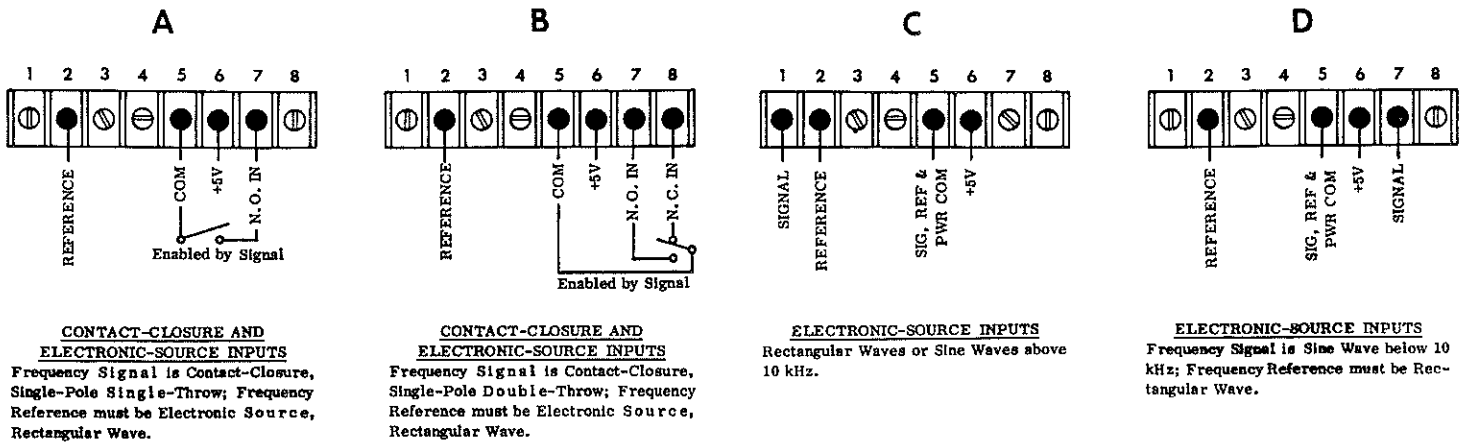

Figure 10. Input Connections for Frequency Ratio Measurement
2. Reassemble instrument and connect inputs to terminal block as shown in figure 10"A".
2. Reassemble instrument and connect inputs to terminal block as shown in figure 10"B".
2. Reassemble instrument and connect inputs to terminal block as shown in figure 10"C".
2. Reassemble instrument and connect inputs to terminal block as shown in figure 10"D".